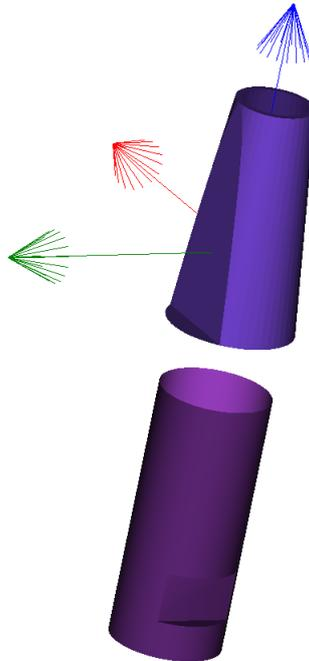

Figure 4.1: Retention mesh and scan abutment in the same coordinate system
2. The retention mesh in the Model Creator implant library and the scan abutment geometry in the standard implant library shall be in the same coordinate system and correctly aligned with respect to each other (see Figure 4.1).